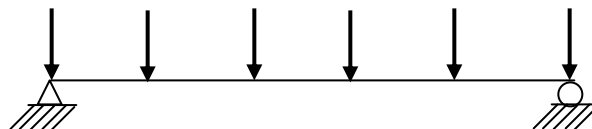

Figure 2.1
1. Simply supported beam - Figure 2.1